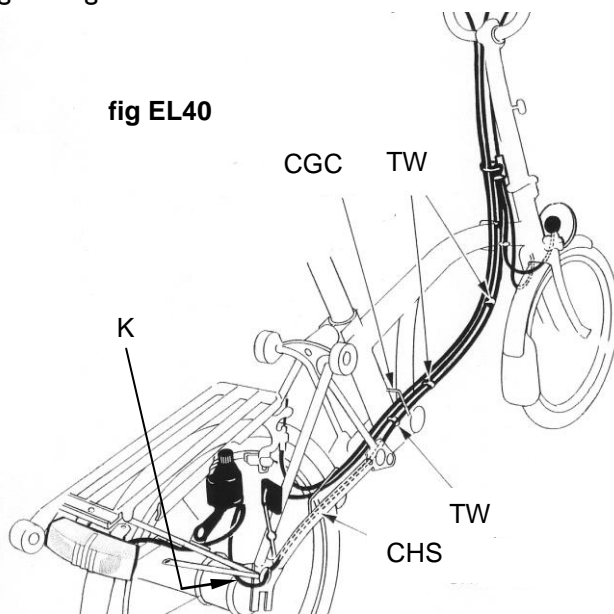
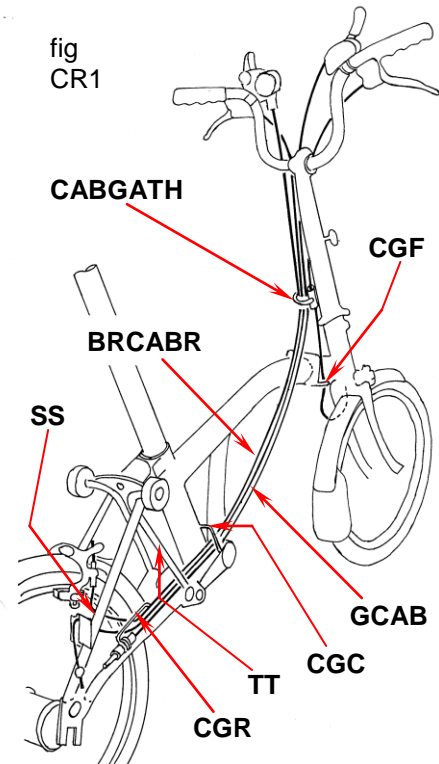

fig EL40
fig CR1
2. Feed the cables back through (fig CR1), including the dynamo loom which passes through the RH chainstay CHS (fig EL40), and round under the rear carrier stays at K up to the dynamo. Fit the dynamo, and secure without tightening the nut.